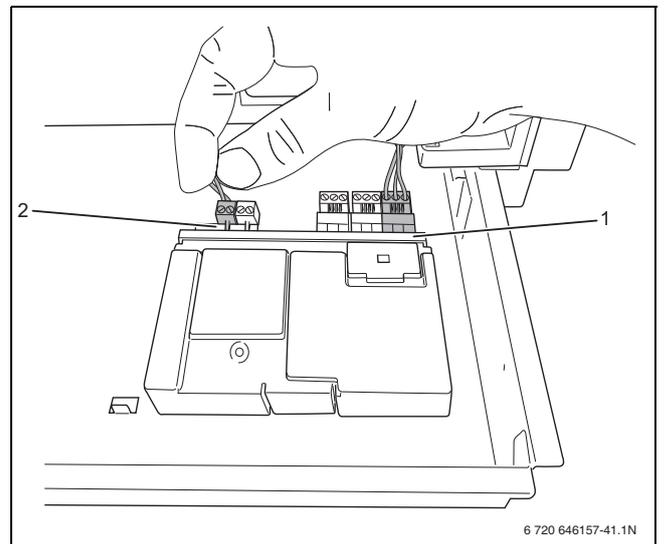
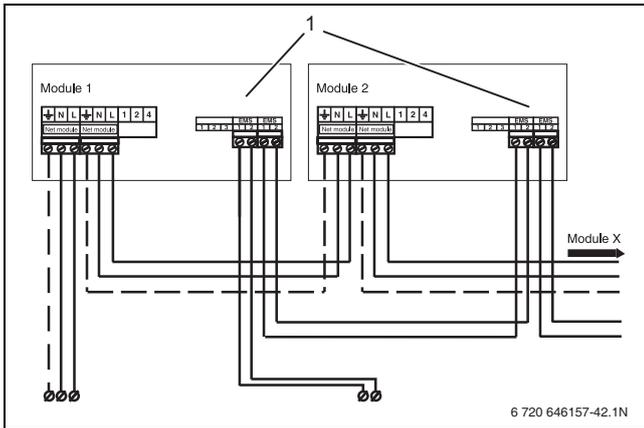

Fig. 45 Interconnecting modules
Fig. 46 Connecting several modules
- ▶ The module may have the letters RC or EMS above the connection (→ fig. 46, [1]).
- ▶ Connect the free connector of the EMS bus connecting cable (→ fig. 45) to the first module (→ fig. 46).
- ▶ If more modules are used, the EMS bus connection for the second module may be branched off from the first module using the cable enclosed with the module (→ fig. 45 and fig. 46).
- ▶ Connect the wire from terminal 1 to terminal 1 and from terminal 2 to terminal 2 (→ fig. 45 and fig. 46).